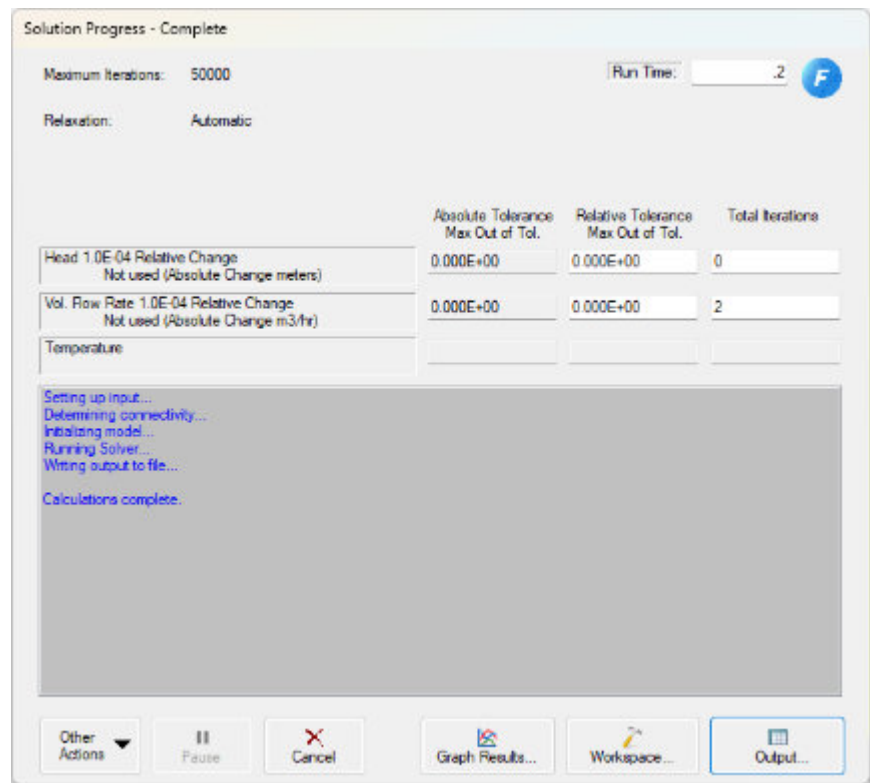
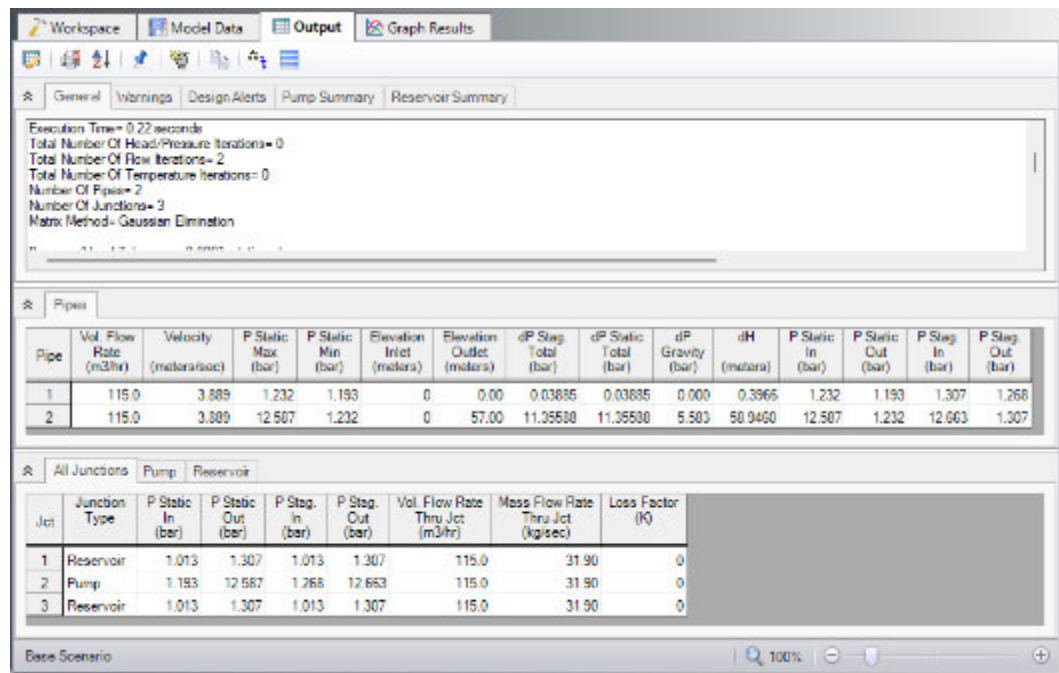

Figure 2.21 The Solution Progress window displays the Solver's convergence progress
Figure 2.23 The Output window displays output in tabular form
- **Run the Model:** click the green arrow icon on the Common Toolbar, press CTRL+R, or open the Analysis menu and click Run Model. During execution, the Solution Progress window is displayed and can be used to pause or cancel the Solver's activity (see Figure 2.21). When the solver finishes, click the Output button and the table-based Output window will appear (see Figure 2.23). Besides just viewing the results in the Output window, you can save to file, export to Excel or a spreadsheet-ready format, copy to the clipboard, print to PDF, or print out on the printer.
Similar to the Model Data window, the Output window (Figure 2.23) has a similar structure with three sections. You can expand or collapse each section by dragging the boundary between the sections up or down or by clicking the arrow beside the section label. The parameters and units chosen in the Output Control display in the tables.